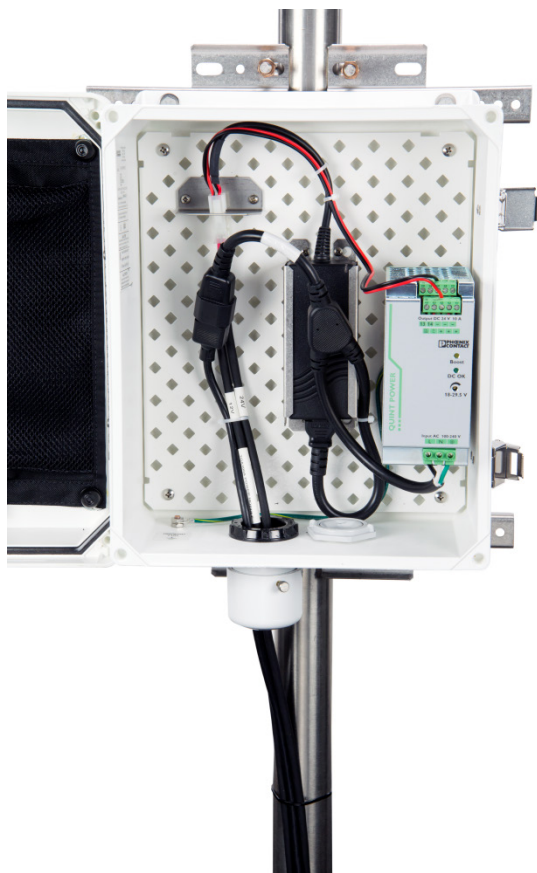

FIGURE 6-16. TGA200A power module with cables installed
7. Replace the cap of the cable feedthrough by pushing it on, rotating it to fit snugly against the cables, and tightening the thumbscrew. The connected power module enclosure is shown in FIGURE 6-16.